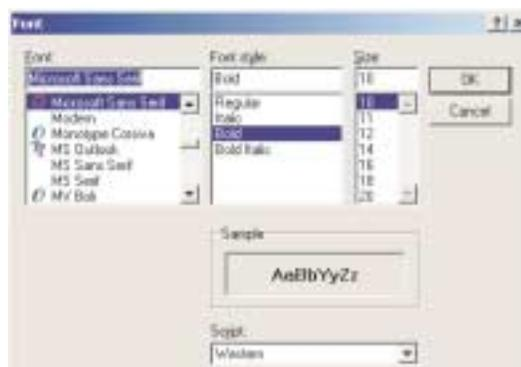

Figure 4. Font options
7. Click on **Font** to open the Font dialog box (see Figure 4).